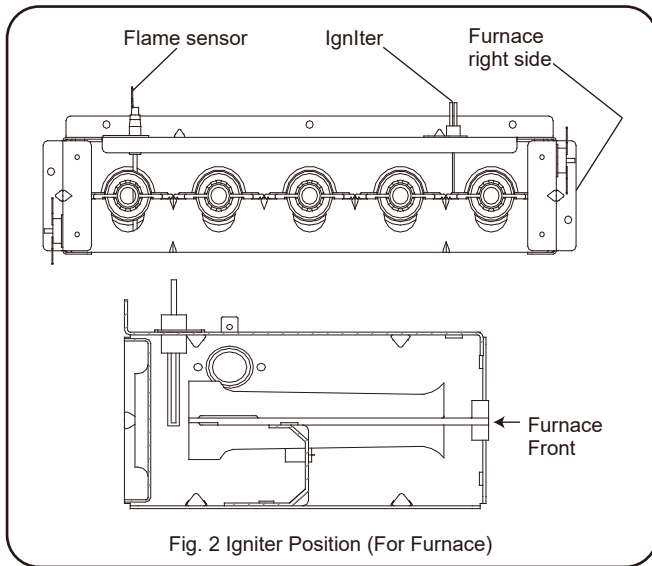

Fig. 2 Igniter Position (For Furnace)
1. Reinstall the gas manifold assembly to the burner box with the four (4) fasteners, which were removed earlier.
2. After installing the burner, inspect the alignment of the burners with the heat exchanger tubes. The center of the burners should be aligned with the center of the tubes. The igniter and flame sensor position refer to Fig. 2.